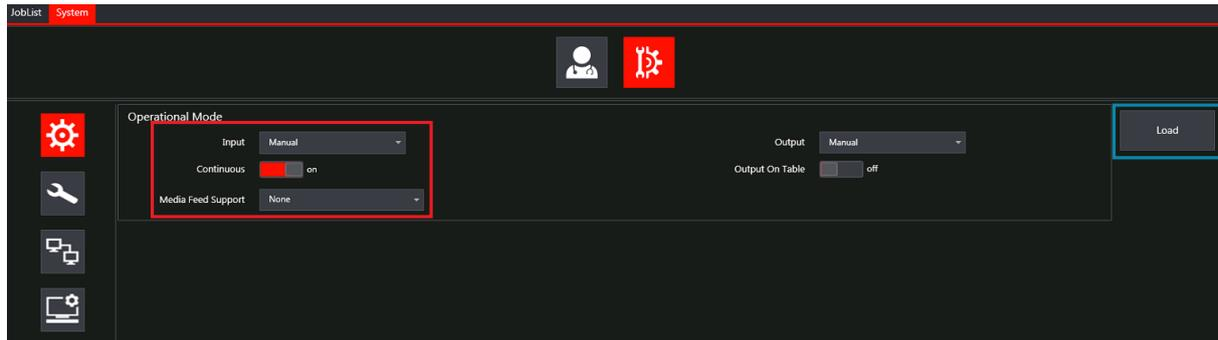

Fig.4-15: Operational Mode Pane
- Step 1: Go to the Operational Mode pane in the system tab (see Fig.4-15).
- Step 2: Depending on the kind of media used and/or other optional devices installed, you can select different Operational Modes. Here we load manual sheet mode by clicking the Load button (outlined in blue in Fig.4-15). For other modes, please refer to Chapter: Machine Operation.